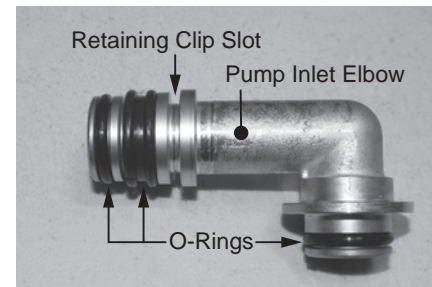

Figure 179 - Pump inlet elbow O-rings
- Locate new pump inlet elbow and three (3) O-rings provided in the kit. The pump inlet elbow uses one (1) 15 x 2.5 O-ring on the inlet side, one (1) 16 x 7 double seal O-ring on the inlet side, and one (1) 15 x 2.5 O-ring on the outlet side. Install O-rings to elbow. Install elbow to water pump and secure with retaining clip. Proceed to **Step 33** if not replacing water pump. See Figure 179.
The pump inlet elbow uses one (1) 15 x 2.5 O-ring on the inlet side, one (1) 16 x 7 double seal O-ring on the inlet side, and one (1) 15 x 2.5 O-ring on the outlet side. See Figure 179.